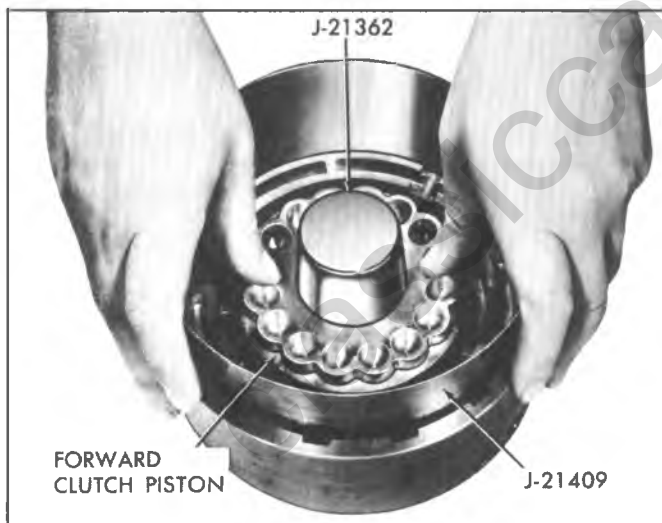

Fig. 74T--Installing Forward Clutch Piston
- 3. Place seal protector Tool J-21362, over clutch hub and install outer clutch piston seal Protector J-21409, into clutch drum and install piston, rotating piston on drum until seated (fig. 74T).